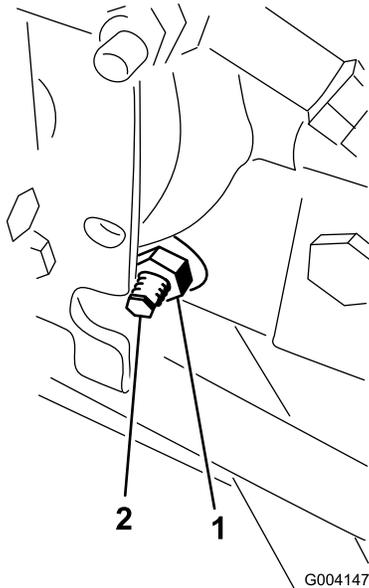

Figure 62
3. On the right side of the hydrostat, loosen the locknut on the traction adjustment cam (Figure 62).